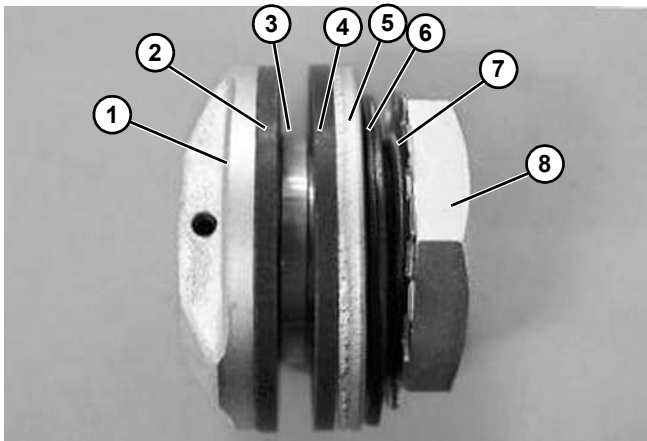

Figure 112
- Prevent damage to the products on the conveyor (See Figure 112.)